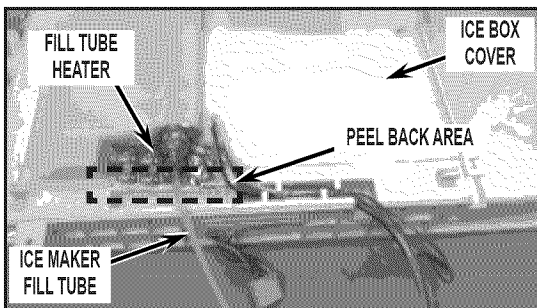
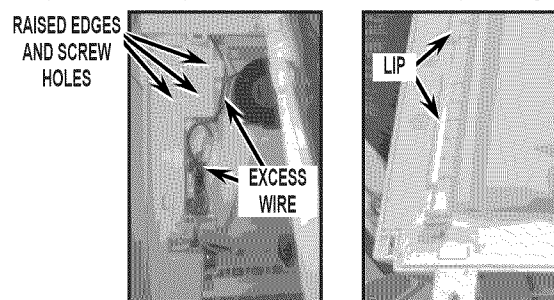

FIGURE 13
FIGURE 16
16. Gently peel back enough of the foil fill tube heater to be able to remove ice box cover. See *Figure 13*.
19. Fold excess wire into ice box, be sure to locate all wiring into the spaces below the raised edges and screw holes. See *Figure 16*. Attach ice box cover to ice box using screws removed in step 17. Be sure to tuck end of ice box cover under the lip on the ice maker assembly and reattach the peeled back part of the fill tube heater (See *Figure 13*).